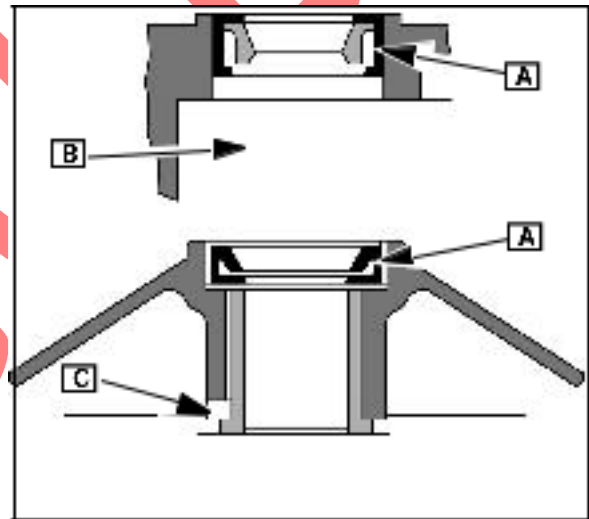

Fig. 26
side of gear case (B) or cover ([C] Fig. 26).